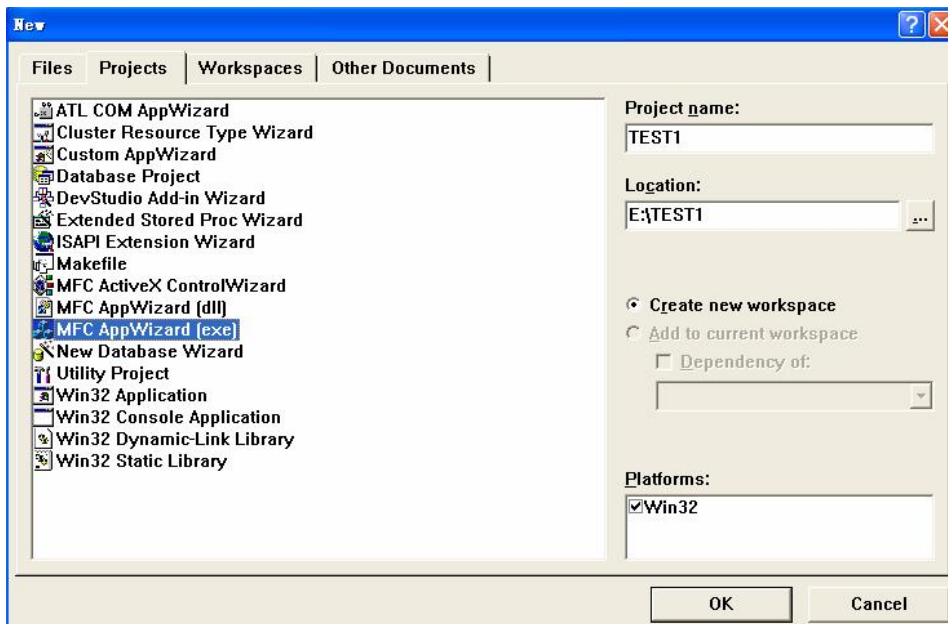

Figure 5-5 Creates a new project
- (1) Open Visual C++ 6.0;
- (2) Create a new project;
- (3) Choose MFC Apprized(exe);
- (4) Set the location of saving the project, such as: E:\ ;
- (5) Input the name of the project, such as: test1. See figure 5-5;
- (6) Choose “Dialog based” type of application, press “Finish” button to create a project;